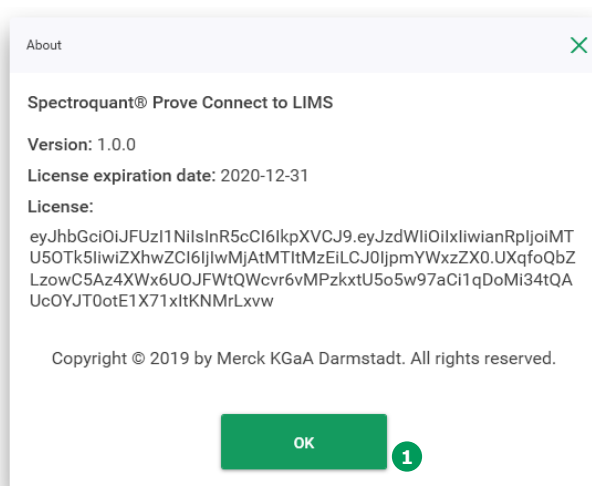

Figure 47 - Prove Connect's About menu
The About menu leads you to a window showing the current software version, the license expiration date and the license key used for the activation of the software. Click on "OK" ① (Figure 47) to close the window.